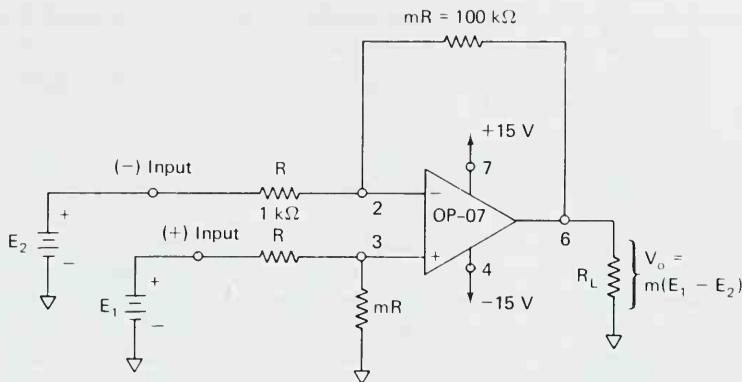
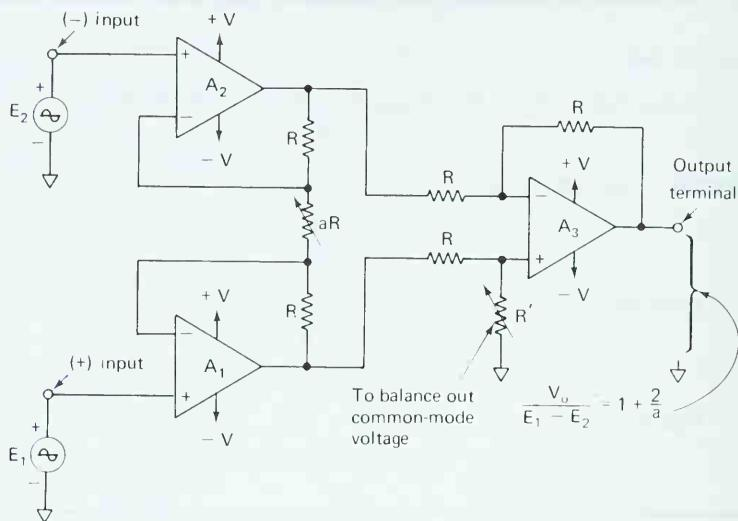

FIGURE 8-1 Basic differential amplifier.
FIGURE 8-6 Instrumentation amplifier.
Four precision (1%) resistors and an op amp make up a differential amplifier, as shown in Fig. 8-1. There are two input terminals, labeled (−) input, and (+) input, corresponding to the closest op amp terminal. If E_1 is replaced by a short circuit, E_2 sees an inverting amplifier with a gain of $-m$. Therefore, the output voltage
In Fig. 8-1, the differential gain is found from
There are two disadvantages to the basic differential amplifier studied thus far: It has low input resistance, and changing gain is difficult, because the resistor ratios must be closely matched. The first disadvantage is eliminated by *buffering* or isolating the inputs with voltage followers. This is accomplished with two op amps connected as voltage followers in Fig. 8-5(a). The output of op amp A_1 with respect to ground is E_1 , and the output of op amp A_2 with respect to ground is E_2 . The differential output voltage V_o is developed across the load resistor R_L . V_o equals the difference between E_1 and E_2 ($V_o = E_1 - E_2$). Note that the output of the basic differential amplifier of Fig. 8-1 is a single-ended output; that is, one side of R_L is connected to ground, and V_o is measured from the output pin of the op amp to ground. The buffered differential amplifier of Fig. 8-5(a) is a differential output; that is, neither side of R_L is connected to ground, and V_o is measured only across R_L .
The instrumentation amplifier is one of the most useful, precise, and versatile amplifiers available today. You will find at least one in every data acquisition unit. It is made from three op amps and seven resistors, as shown in Fig. 8-6. To simplify circuit analysis, note that the instrumentation amplifier is actually made by connecting a buffered amplifier [Fig. 8-5(b)] to a basic differential amplifier (Fig. 8-1). Op amp A_3 and its four equal resistors R form a differential amplifier with a gain of 1. Only the A_3 resistors have to be matched. The primed resistor R' can be made variable to
In Fig. 8-6, $R = 25\text{ k}\Omega$ and $aR = 50\text{ }\Omega$. Calculate the voltage gain.
If aR is removed in Fig. 8-6 so that $aR = \infty$, what is the voltage gain?
In Fig. 8-6, the following voltages are applied to the inputs. Each voltage polarity is given with respect to ground. Assuming the gain of 1001 from Example 8-3, find V_o for (a) $E_1 = 5.001$ V and $E_2 = 5.002$ V; (b) $E_1 = 5.001$ V and $E_2 = 5.000$ V; (c) $E_1 = -1.001$ V, $E_2 = -1.002$ V.
- (a) Op amp 3 of the IA in Fig. 8-6 has its “normally grounded” terminal brought out; the new terminal is called “reference terminal.” R
The versatility and performance of the instrumentation amplifier in Fig. 8-6 can be improved by breaking the negative feedback loop around op amp A_3 and bringing out three terminals. As shown in Fig. 8-8, these terminals are *output* terminal 0, *sense* terminal S , and *reference* terminal R . If long wires or a current-boost transistor